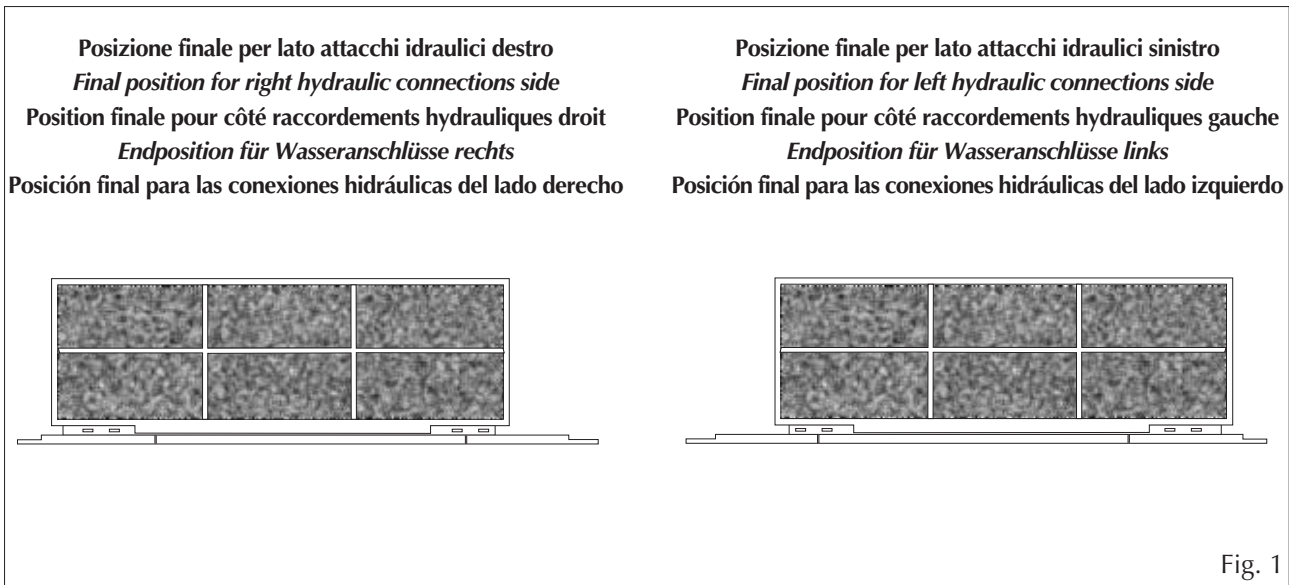
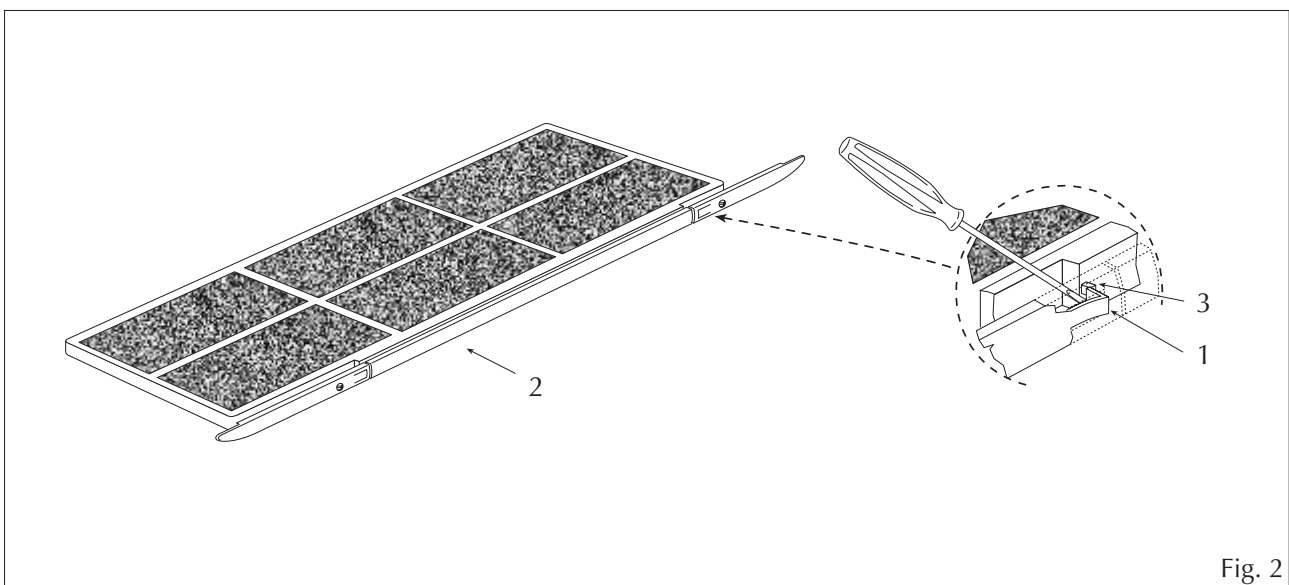

Fig. 1
Fig. 2
- modify the air filter to the new configuration by changing the position of the external support in relation to the filter frame (Fig. 1); press down on the tab (12 Fig. 2) with a screwdriver while moving the external support (13) until the tab is over the tooth (14). Release the tab when the position between the support and the filter is as shown in Fig. 1.